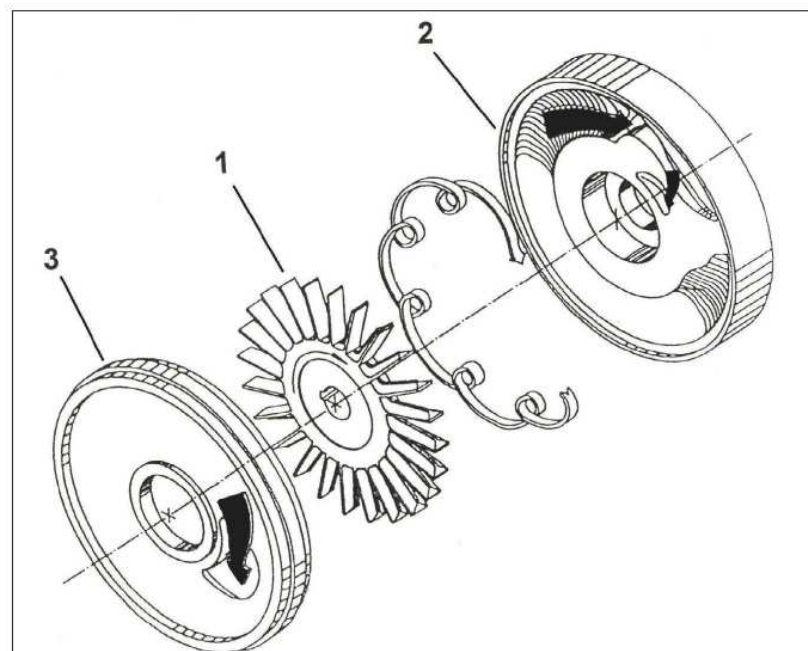

Figure 3. Side-channel stage (exploded view).
On its way through the side-channel stage the fluid is propelled by an open star impeller (see Figure 3. (1)) with typically 20 to 24 vanes. The fluid enters at the stage casing (Figure 3. (3)), and takes a spiral wound vortex path to the exit at the end of the side-channel casing (Figure 3. (2)). There is a repeated interaction of the fluid